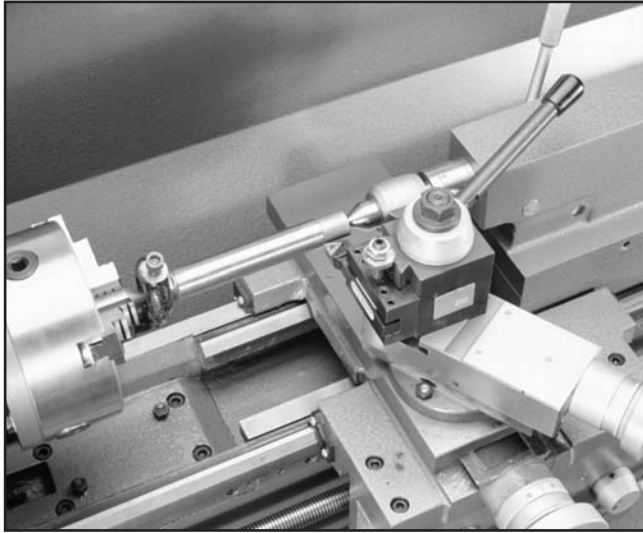

Figure 38. Bar stock mounted on centers.
- Attach a lathe dog at the spindle end to the bar stock from **Step 1** and mount it between the centers (as shown in **Figure 38**).